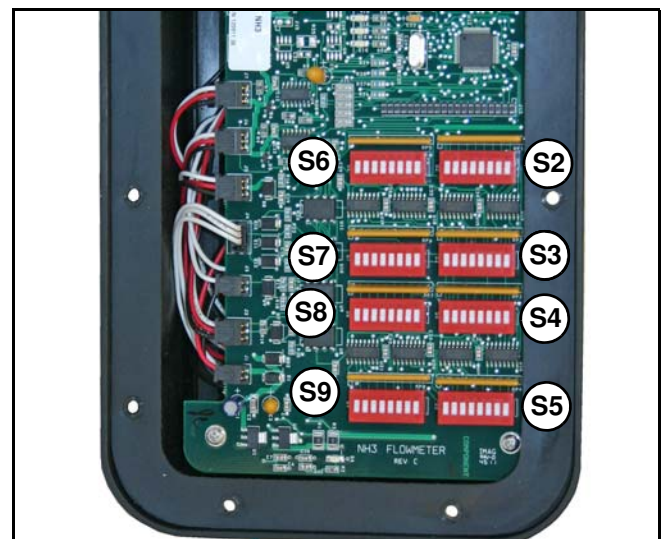

Figure 1
1. **[Figure 1]** - Locate the master flow meter module. The master flow meter module is the flow meter module in the electronic module enclosure that is connected to the 3-section shutoff harness.